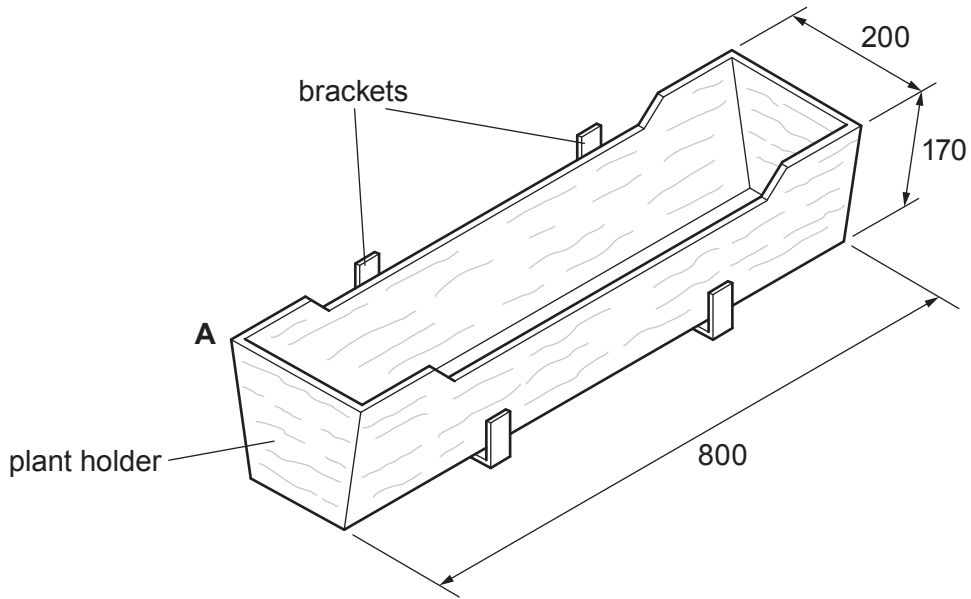

Fig. 13.1
- 13 Fig. 13.1 shows a plant holder and the brackets that will support it on a wall. The sides and ends of the plant holder are made from 15 mm thick hardwood and its base from 10 mm thick manufactured board. The brackets are made from mild steel.